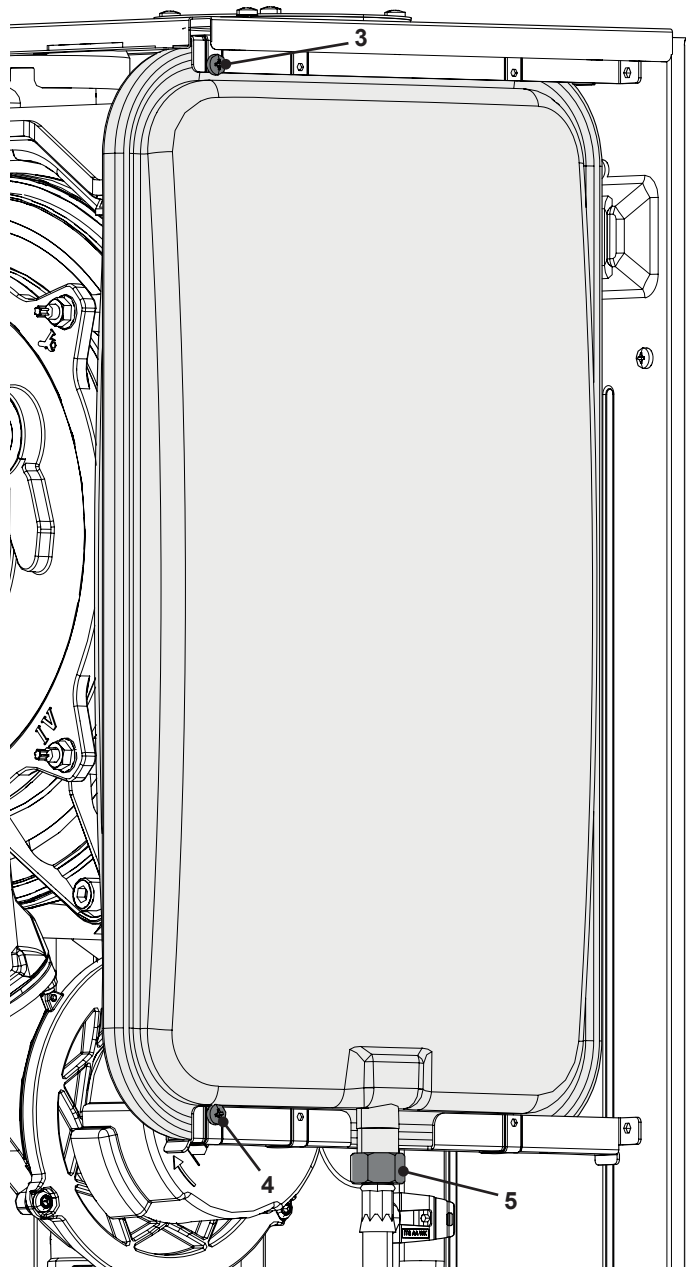

Figure 11.3
- 2 Completely unscrew the connection "5" (Figure 11.3).
- 3 Unscrew the screws "4" and "3" (Figure 11.3).